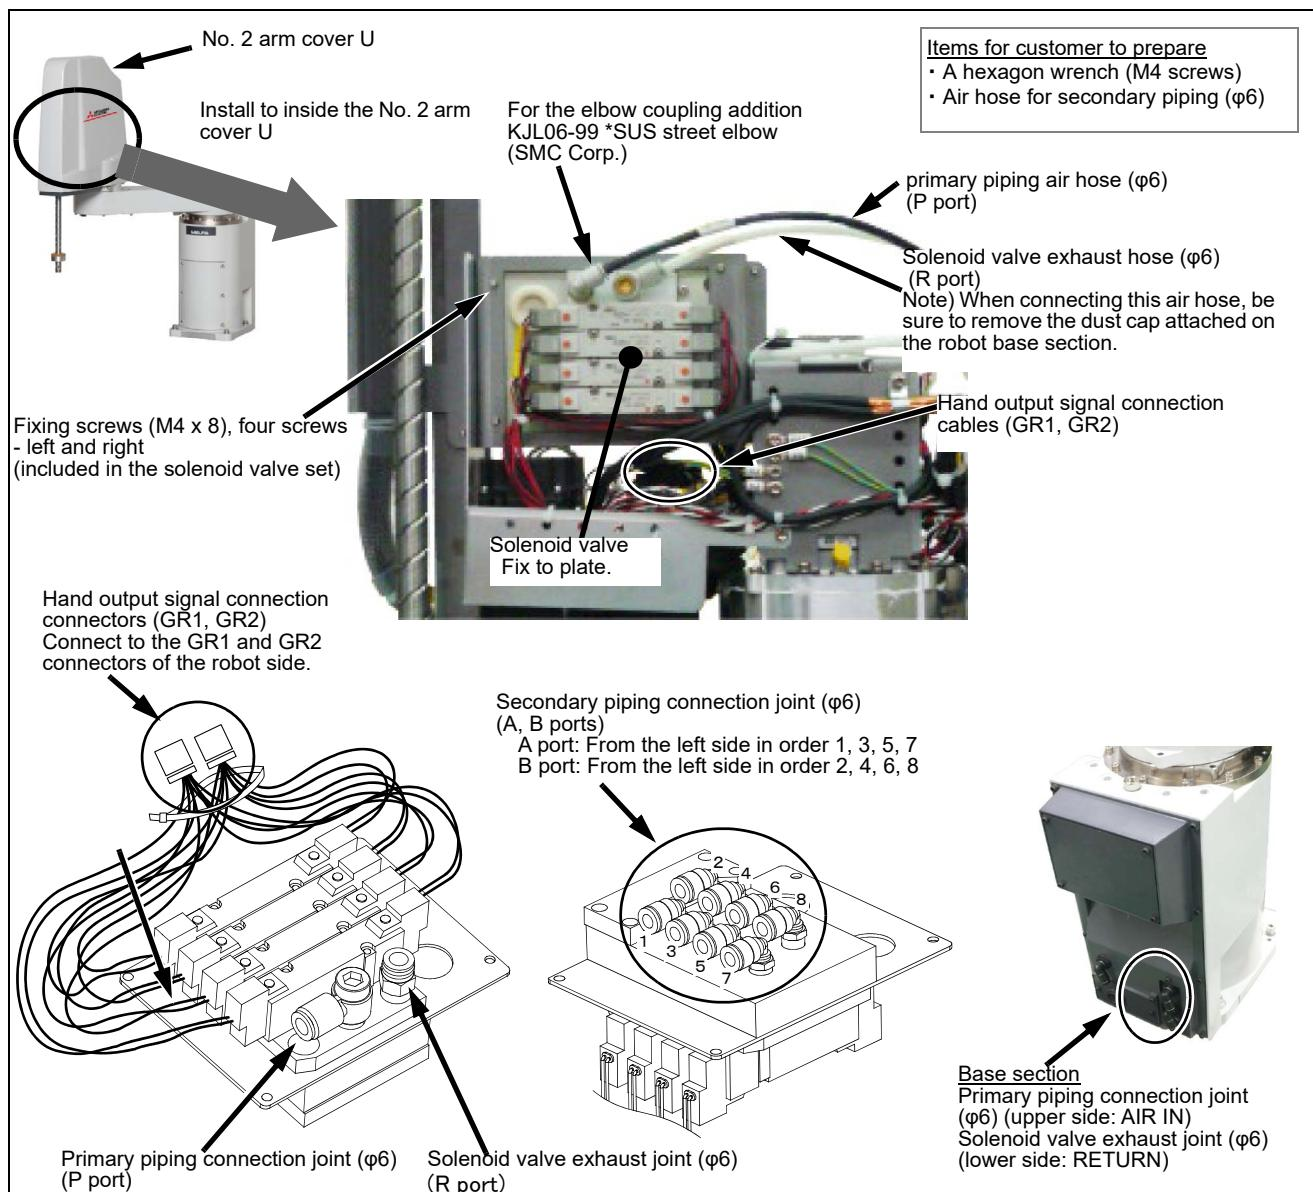

Fig.3-2 : Solenoid valve installation procedures (RH-12FRH/20FRH)
- 2) Fix the solenoid valve to the plate in the position indicated in Fig. 3-2. Place it so that the solenoid valve's primary piping connection joints (P, R ports) are located on the upper side, and fix it securely using the M4 screws included (tightening torque: 1.39 to 1.89N · m).